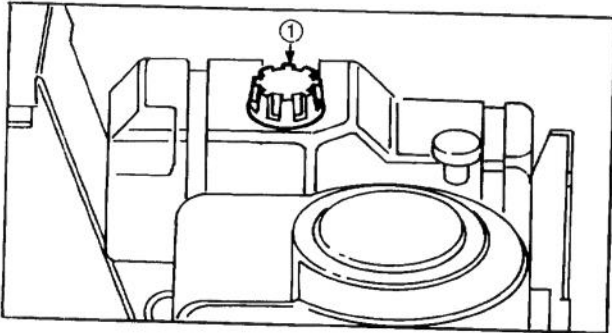

Figure 19
1. Clean area around fuel tank cap so foreign matter cannot enter filler hole when cap is removed. Next, remove cap from fuel tank (Fig. 19).